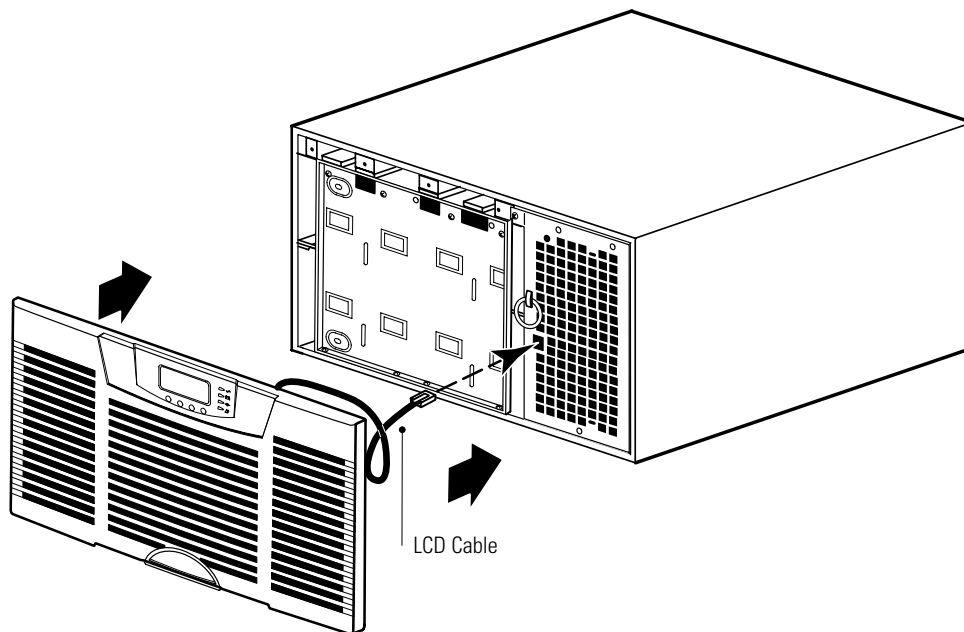

Figure 55. Replacing the UPS Front Cover
7. Replace the UPS front cover (see Figure 55):